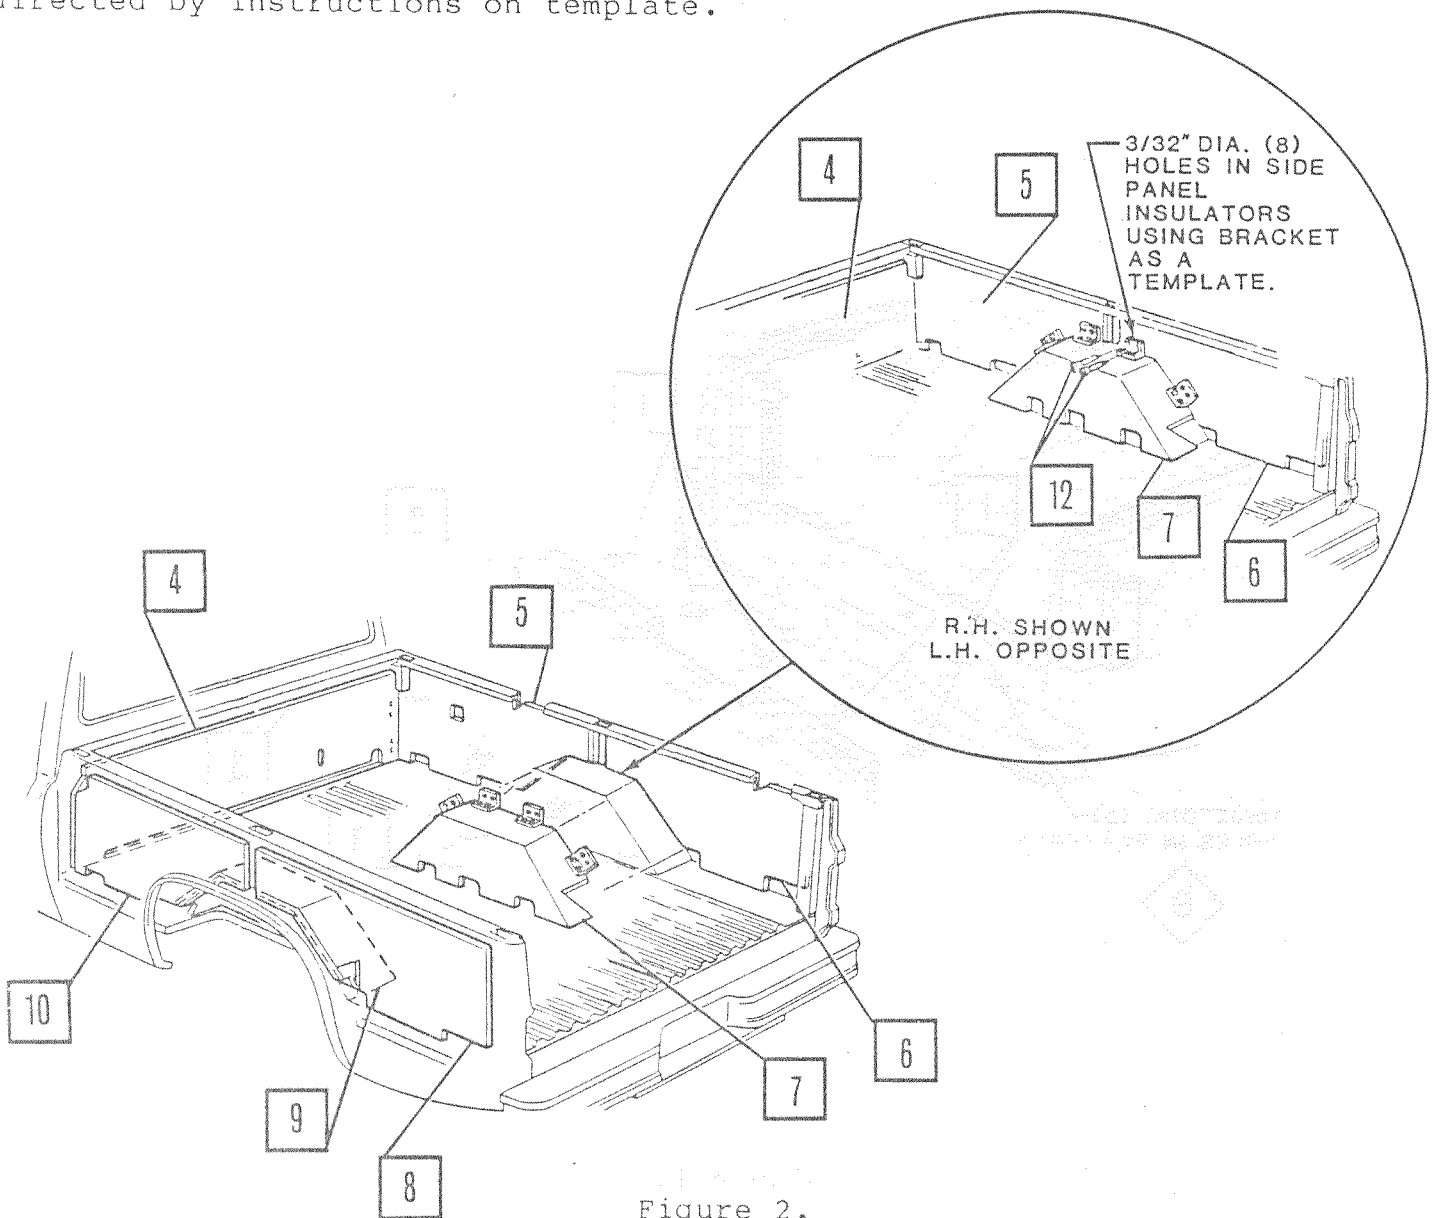

Figure 2.
18. Position side, front, and wheelwell insulators into pickup box (Figure 2.).
19. Using "L" brackets on wheelwell insulators as template, drill  $3/32$  inch holes in wood side insulators (Figure 2.).
20. Secure brackets with wood screws (Figure 2.).